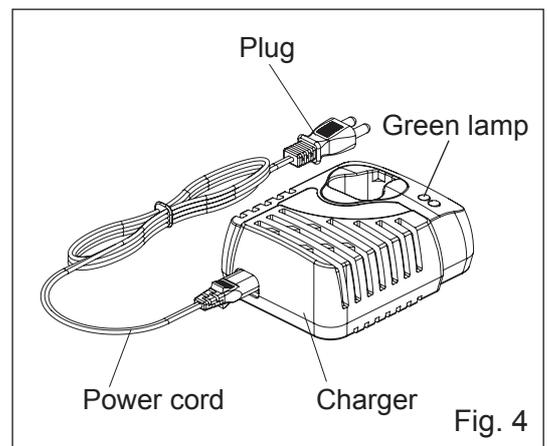

Fig. 4
2. Connect the power cord and charger, and then insert the plug into the mains. Check that the green lamp is slowly flashing on and off. This indicates that the battery is being charged. (Fig. 4)